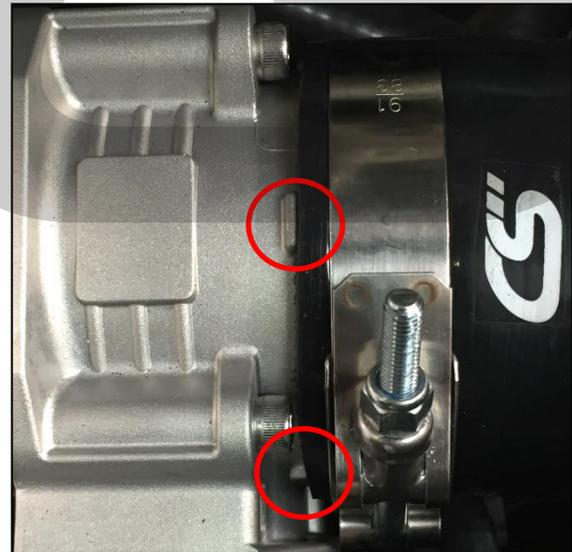

Figure 4b
- b) **Install CorkSport Throttle Body using supplied four (4) M6 Socket Cap Screws.** Tighten to **10-14 ft-lbs.** using a 5mm Allen socket.
- c) **Attach the throttle body inlet silicone using supplied T-bolt clamp.** Ensure silicone is fully seated on tabs of CS throttle body. Tabs shown with **red circles** in **Figure 4b**.
Only two tabs can be seen in **Figure 4b**. There are 4 tabs around the edge of the TB.